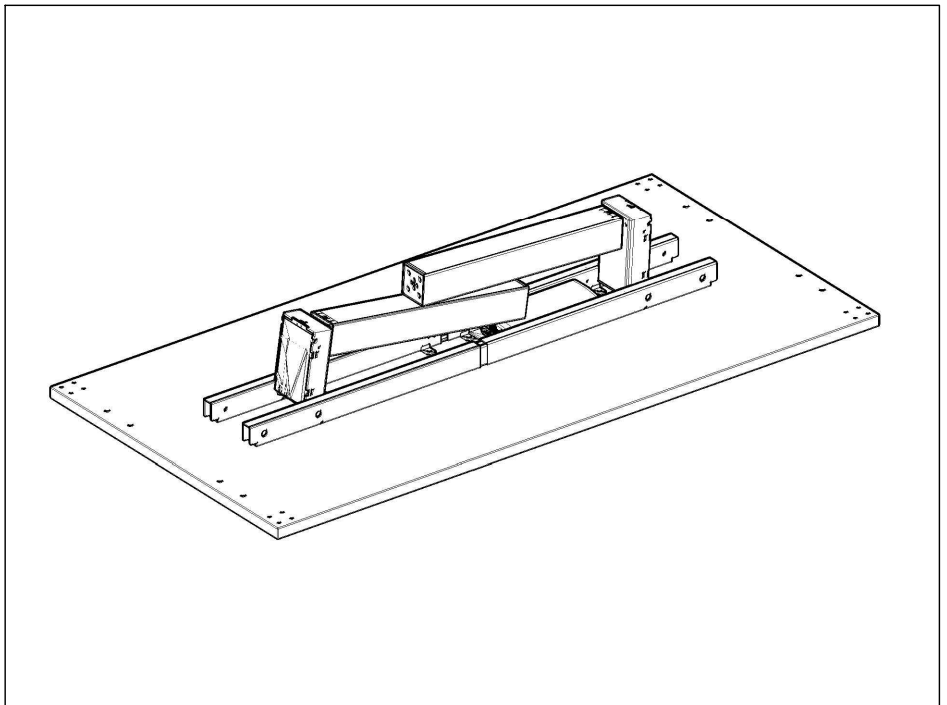

FIGURE 6
6. Put the main frame on the back side of the worksurface (Figure 6).